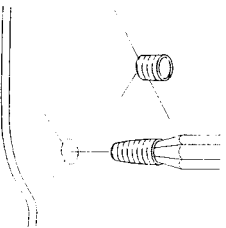

Figure 3
- From the top side of the cardboard panel, install 17 spring terminals into the 17 large, numbered holes. To make installation easier, use the pointed end of a pencil or ballpoint pen to push the spring through the holes and twist slightly. (See Figure 3.)